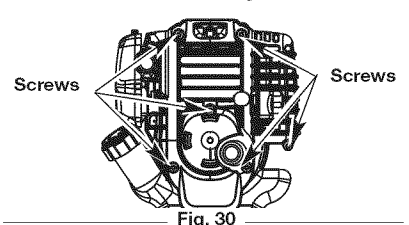

Fig. 30
- Remove the six (6) screws on the back of the engine cover with a Flat-head or T-25 Torx screwdriver (Fig. 30).
- Remove the engine cover (Fig. 30).
- Stop the engine and allow it to cool. Remove the six (6) screws on the back of the engine cover with a Flat-head or T-25 Torx screwdriver (Fig. 30).